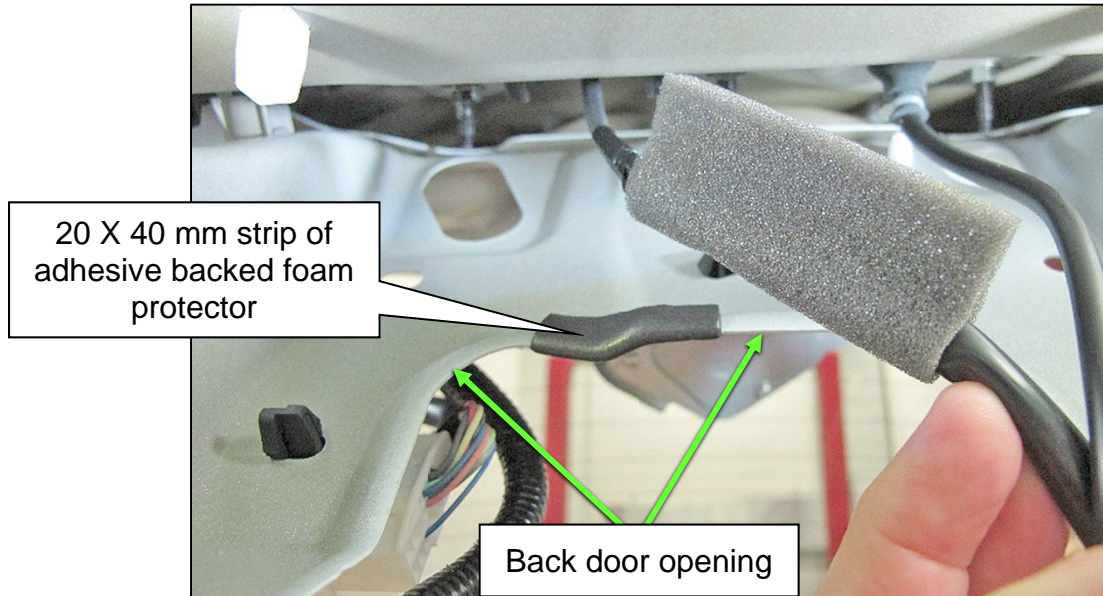

Figure 16
- b. Apply the foam protector to secure the rear camera's wiring harness to the back door opening where shown in Figure 16.